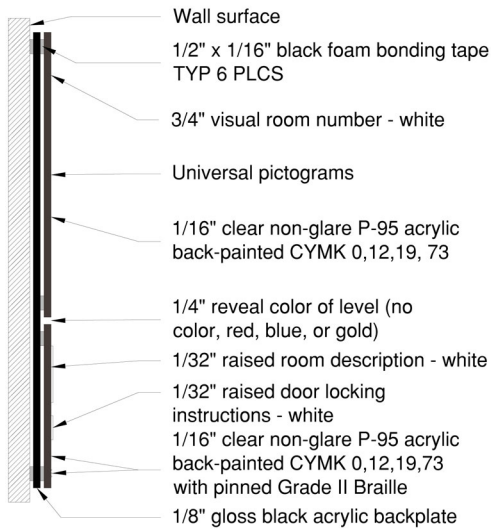

Figure 16.11
- 16.11. UMD D1.1 sign cross section shall comply with figure 16.11.